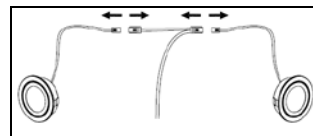

Fig. 12.1
- Disconnect the light connector (Fig. 12.1).